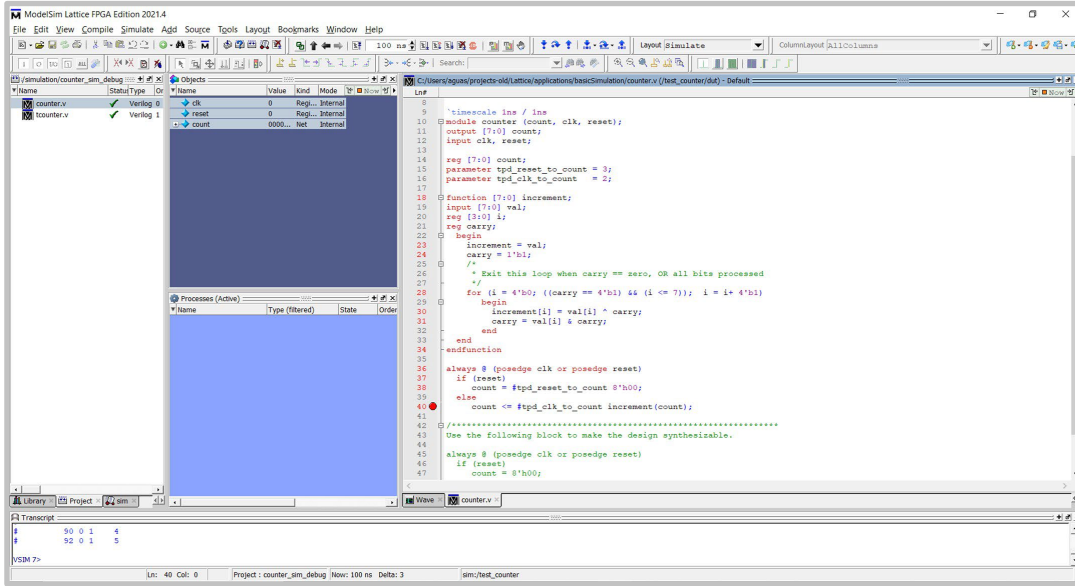

Figure 9: Setting a Breakpoint
10. ModelSim allows to debug the HDL code with break points and stepping through the code. Double click on line 40 or right-click on it and select **Set Breakpoint**; the debugger sets a breakpoint at line 40, see **Figure 9**.